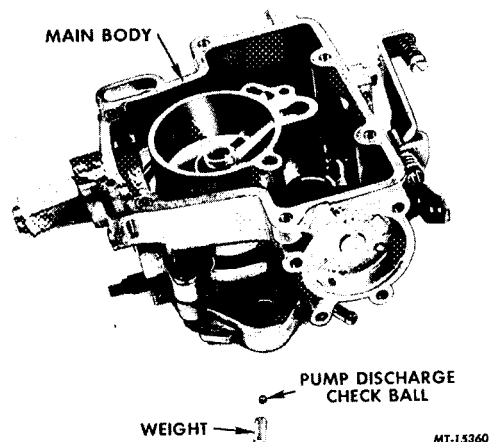

FIG. 20 Remove or Install the Pump Discharge Ball and Weight
1. Turn the carburetor body upside down and remove the pump discharge ball and weight (Fig. 20). Save the old ball in case the seat needs staking (Fig. 25).